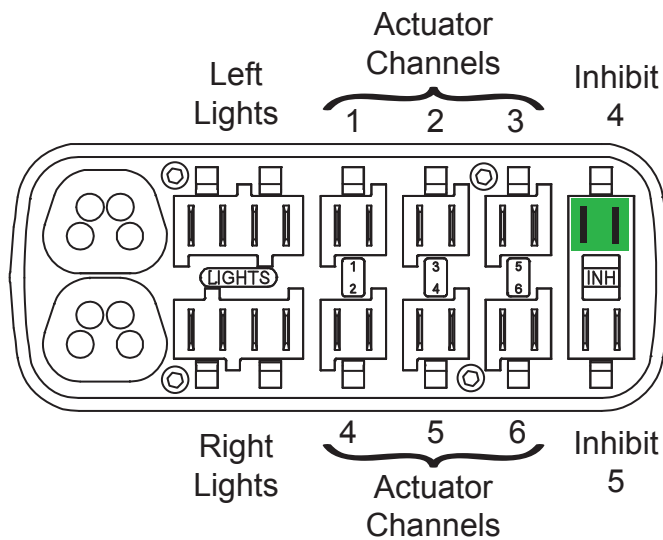

fig. 6.2.1
1. Start by bringing the backrest into the upright position. Remove the shroud covering the backrest and locate the ISM. (fig. 6.2.1)